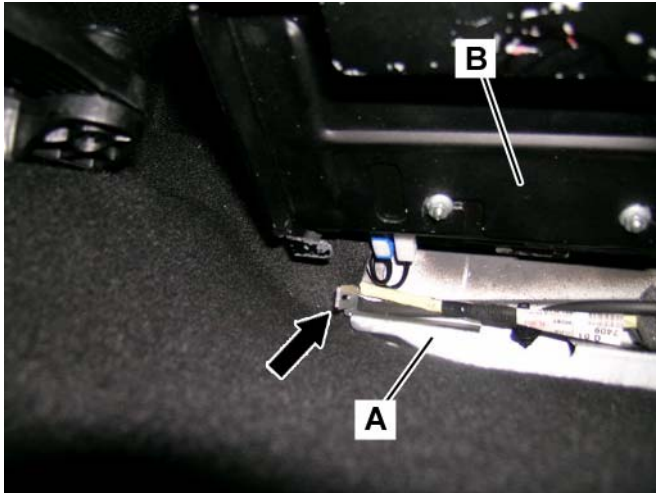

Figure 21
5. Push the SDARS bracket carefully to the rear position and thread them into the latch (arrow, Figure 21), so the cables are not damaged.